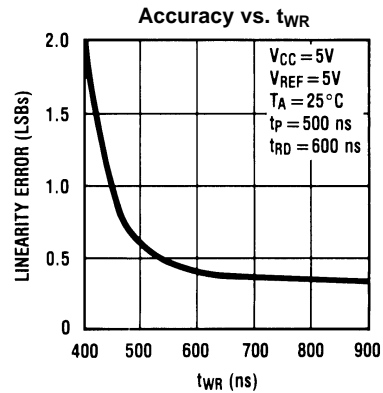
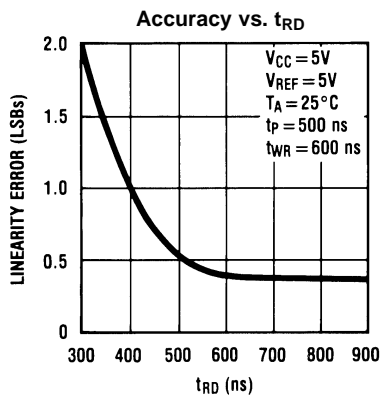

Figure 11.
Figure 12.
(4) Accuracy may degrade if  $t_{WR}$  or  $t_{RD}$  is shorter than the minimum value specified. See Figure 11 and Figure 12 graphs.